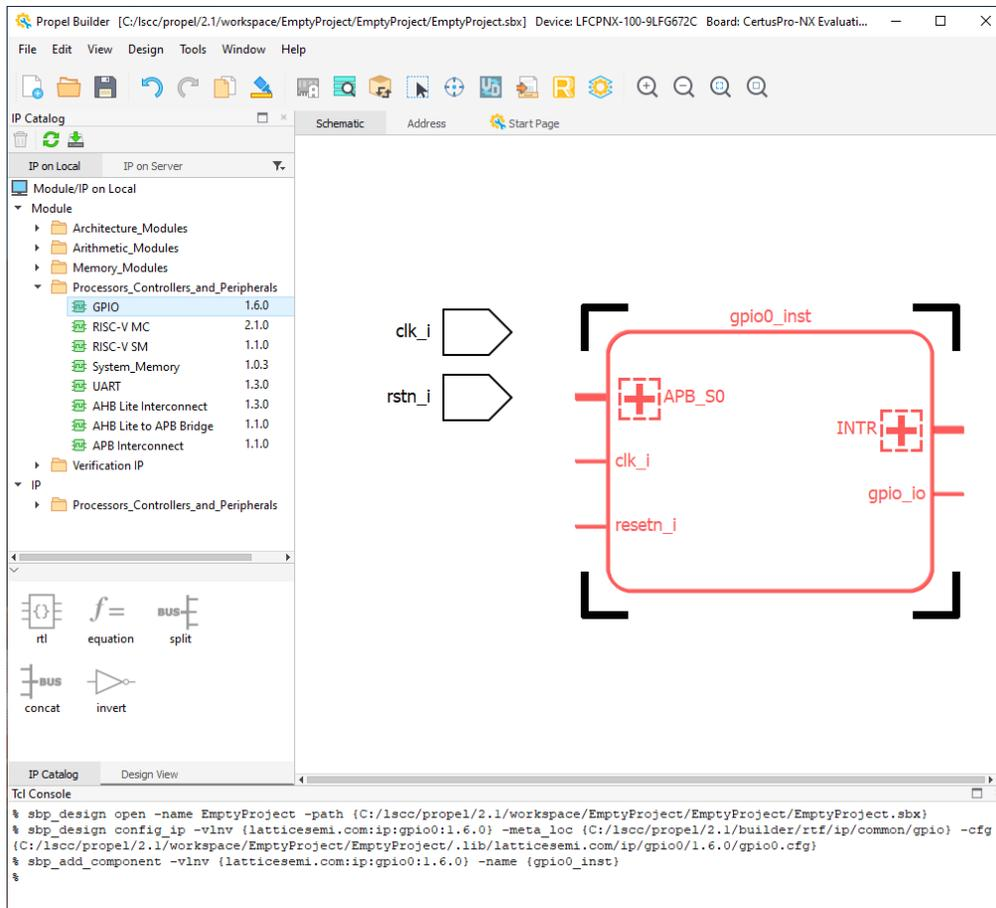

Figure 2.19. Propel Builder Schematic View Shows the Module Instance
9. Click **OK**. The schematic block for the module appears in the **Schematic** view (Figure 2.19).